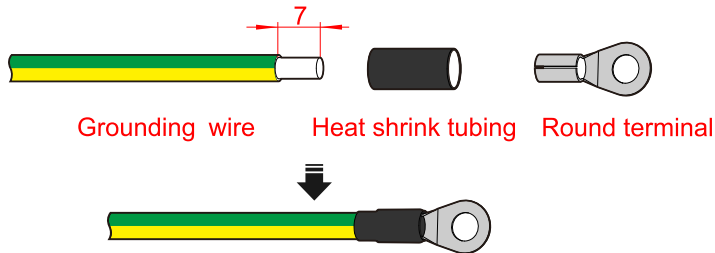

Figure3-13 Crimp the grounding wire (unit: mm)
Step 1 Strip the insulation layer of the grounding wire by wire stripper, and crimp it into the equipped round terminal, as shown in Figure3-13.